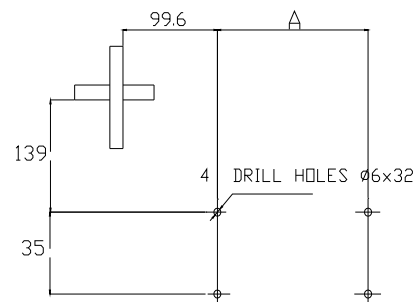

Figure 5
**Note:** If the pattern is lost, the steps described below can be followed. When the radiator position has been decided, the positions have to be marked as follows. Apply two pieces of adhesive tape to the wall as shown below, then follow Figure 5 to mark the four drill holes.